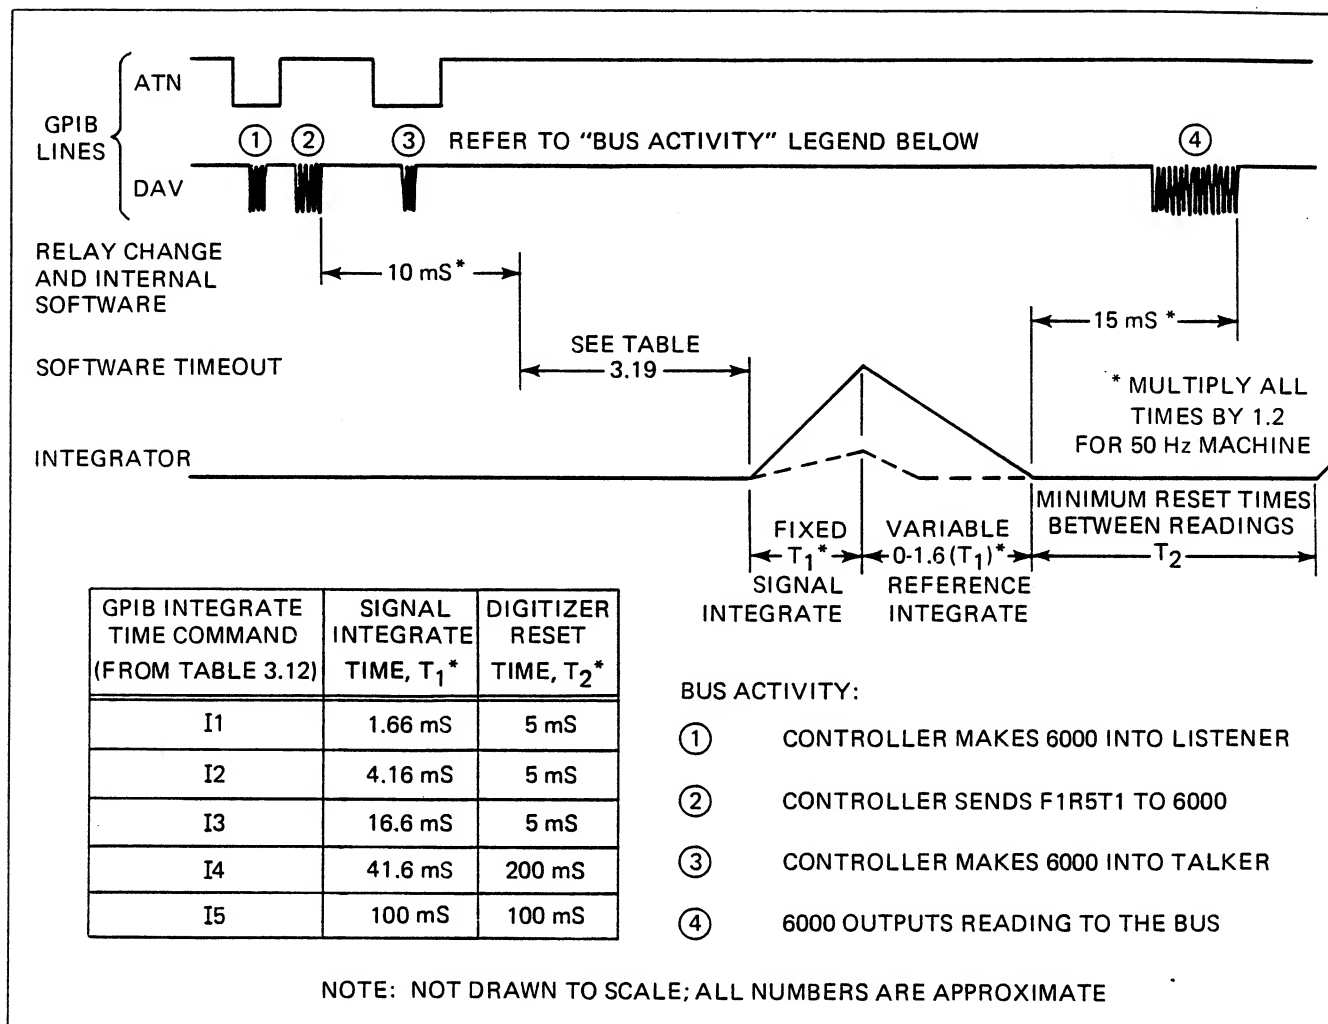

Figure 3.17 - Program/Read Timing Chart
3.4.31.2 Figure 3.17 shows the two GPIB lines ATN and DAV (Attention and Data Valid) along with the DMM's integrator waveform which indicates when a reading takes place. Also shown are the other delays needed to calculate the DMM's throughput time. From the figure, the total time = (10 ms) + (timeout time) + (signal integrate) + (reference integrate) + (15 ms).